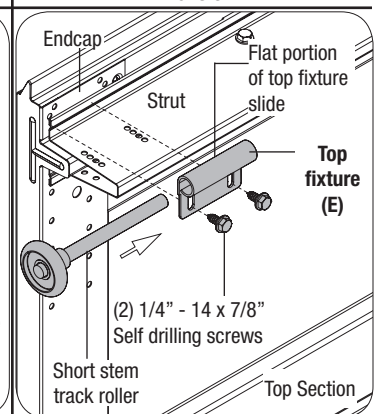

FIG. 3.8
Vertically align the flat portion of top fixture slide with the endcap and strut at the top of top section. Fasten top fixture slide using (2) 1/4" - 14 x 7/8" self drilling screws, as shown in **FIG. 3.8**. Repeat the same process for the other side.